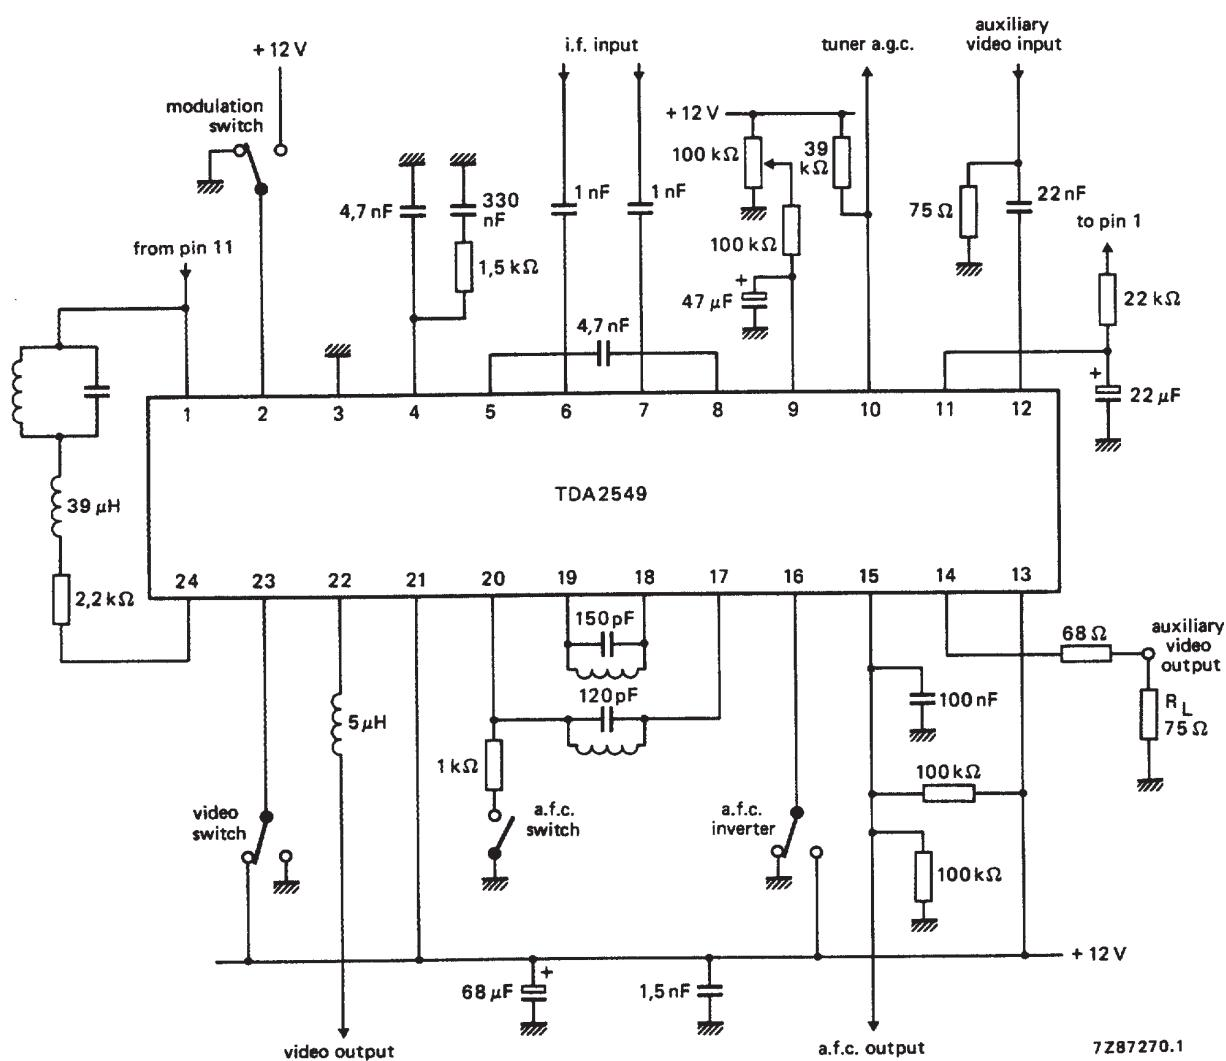

Fig.5 Application diagram.
CHARACTERISTICS (measured in fig.5) $V_P = 12 \text{ V}$; $T_{amb} = 25 \text{ }^{\circ}\text{C}$
2. Measured in application of Fig. 5.